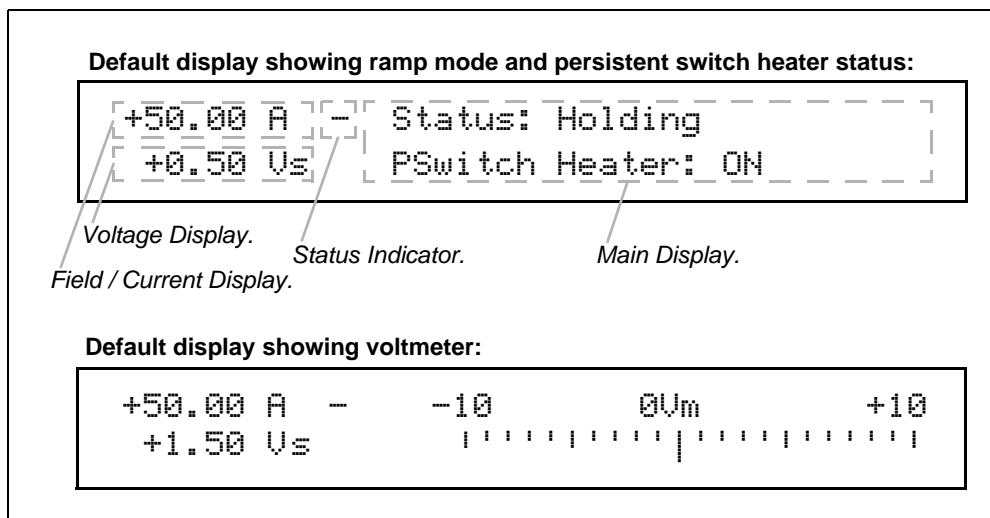

Figure 3-1. Default Display.
The field / current display indicates either the field strength or current1. This is always displayed in the upper left corner of the display (see Figure 3-1), regardless of what else is being displayed on the Model 430 Programmer display. The parameter displayed (field or current) is toggled by pressing **SHIFT** followed by **FIELD <> CURRENT**. Thus, if field strength is being displayed, pressing **SHIFT** followed by **FIELD <> CURRENT** will cause the current to be displayed; conversely, if current is being displayed, pressing **SHIFT** followed by **FIELD <> CURRENT** will cause the field strength to be displayed. Operating current is always displayed in amperes (A). Operating field strength may be displayed in kilogauss (kG) or tesla (T) if a coil constant has been specified in the setup2. If field strength is being displayed, the units (kG or T) in which it is displayed can be toggled by pressing **SHIFT** followed by **FIELD UNITS**.
1. The value is always displayed in current (A) when an installed persistent switch is in the *cooled state* since the value represents power supply current only, independent of magnet current/field.
The voltage display indicates either the voltage across the magnet (Vm) or the power supply output voltage (Vs). This is always displayed in the lower left corner of the display (see Figure 3-1), regardless of what else is being displayed on the Model 430 Programmer display. The parameter displayed (magnet voltage or power supply voltage) is toggled by pressing **SHIFT** followed by **Vs <> Vm**. Vm indicates the voltage measured across the terminals of the connected superconducting magnet. In order for the Model 430 Programmer to measure the magnet voltage, the magnet voltage taps must be connected to the Model 430. Normally this is done through the Magnet Station Cable provided by AMI (if the whole magnet system is provided by AMI). Vs indicates the Model 430 Programmer-controlled power supply output voltage.
The status indicator indicates the Model 430 Programmer operating status. It is always visible (except during a quench condition) and is displayed just to the right of the field / current display (see Figure 3-1). The status indicator may be one of six symbols indicating one of the seven states shown in Table 3-1.
The default main display (the rightmost portion of the display – see Figure 3-1) shows either a voltmeter indicating magnet voltage or ramp mode and persistent switch heater state. Ramp mode is displayed on the top line of the main display; it will be one of eight states, as shown in Table 3-6 on page 76. Persistent switch heater state is displayed on the bottom line of the main display. If the Model 430 Programmer has been setup for use with a persistent switch, it will indicate either ON or OFF for the persistent switch heater state; otherwise, it will display “No PSwitch Installed.”